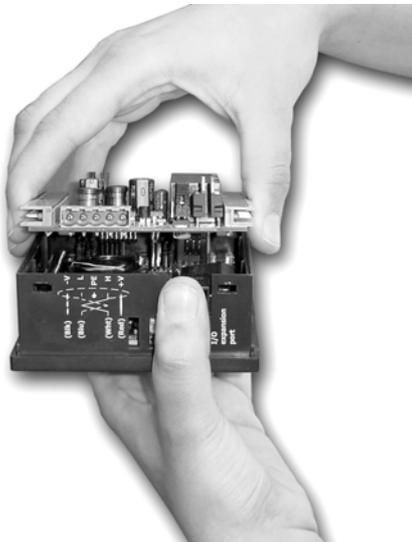

Figure 12. Removing the Top PCB board
- a. Use one hand to hold the top-most PCB board by its top and bottom connectors as shown in Figure 12.